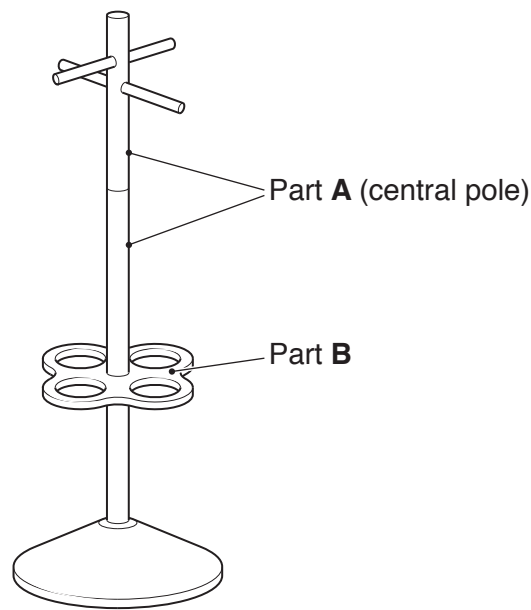

Fig. 2.1
2 Fig. 2.1 gives details of a stand to store hats, coats and umbrellas.
- (c) Explain why products such as the stand shown in Fig. 2.1 are made in sections. [6]